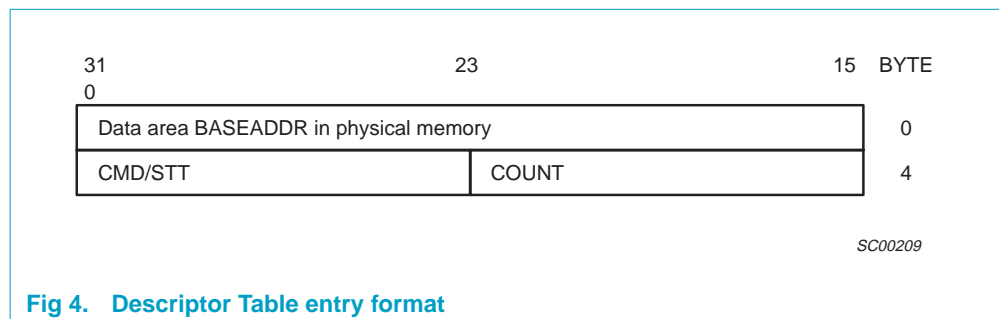

Fig 4. Descriptor Table entry format
All DMA transfers use Descriptor Tables (DT). The DT must be contiguous in the Host memory, and each DMA channel must have its own DT set up as one buffer. For transmission, each DT must have not empty DT entries, and the last entry of a DT must point to valid data, or to a linked descriptor table. Each DT entry is 8 bytes in size. It contains the base address, byte count and command/status bits as illustrated in Figure 4.